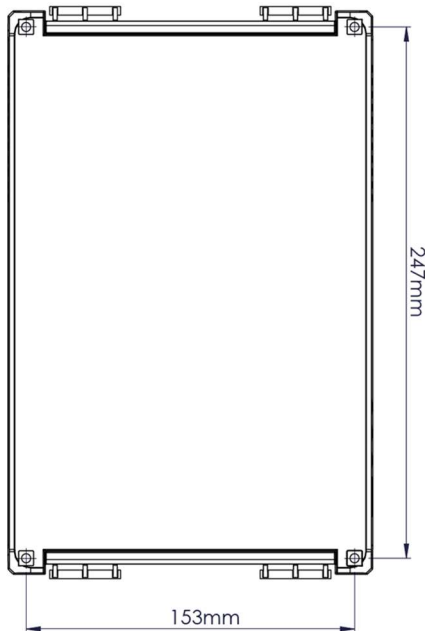

Fig. 3: Hole spacing for fastening
3. Attach the four dowels with hole dimensions 153mm x 247mm to the mounting wall (see Fig. 3).